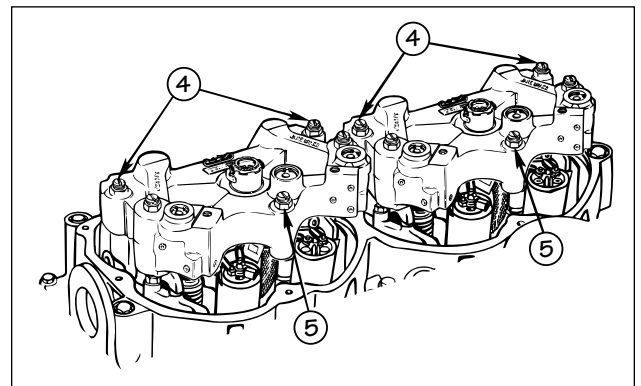

FIG. 3
3. Refer to Fig. 3. Position the engine brake housings on the mounting stud nuts and install the Jacobs hold-down nuts (4) on the brake mounting studs. Torque to 59 lb.-ft. (80 N•m).
4. Refer to Fig. 3. Install the 70 mm bolts (5) through the housing into the spacer (one per housing) and torque to 41 lb.-ft. (55 N•m).